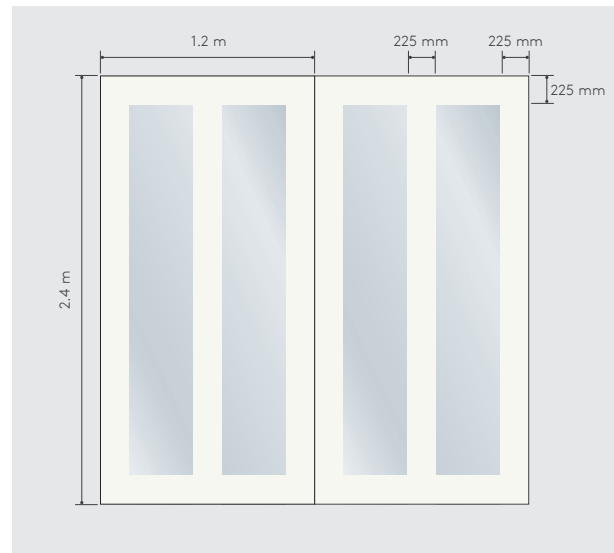

Figure 5 - A Bonding Agent must be Applied Around the Perimeter and Down the Centre of the Board
- A generous coat of bonding agent must be applied when using gypsum / drywall based adhesives. The bonding agent should be applied onto the surface of the foil, following the pattern in Figure 5. A 9 inch / 225 mm standard paint roller should be used to roll bonding agent (going around the foil, back and forth 2-3 times in one application), ensuring a generous amount of bonding agent is applied around the perimeter and down the centre of the boards (to coincide with the positioning of the dabs of adhesive).